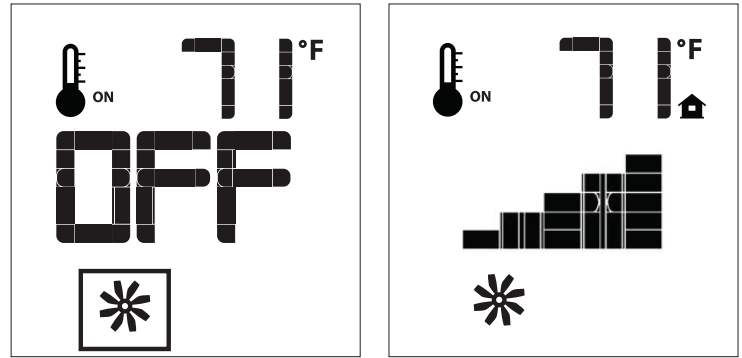

Figure 13: Fan Control
The Q1LI comes with a convection fan that can be controlled with the Transmitter. The fan speed can be adjusted through six (6) speeds. To control the fan press the MODE key (Figure 5) to index to the fan control icon (Figure 13). Use the UP/DOWN arrow keys to turn on, off, or adjust the fan speed (Figure 13). A single beep from the IFC will confirm the command has been received